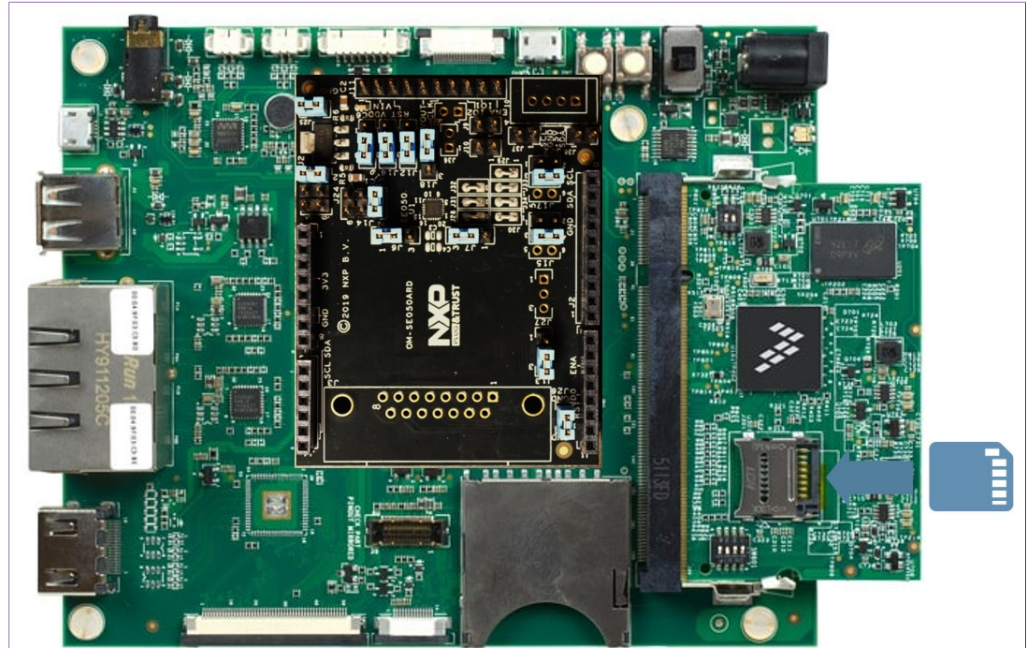

Figure 8. Insert the Micro-SD card
1. Insert the micro-SD card with the pre-compiled Linux image into the card slot as shown in Figure 8